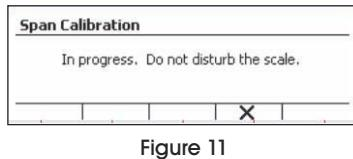

Figure 11
5. Place a calibration mass of the specified weight on pan and press the softkey corresponding to the ✓ icon. To change to a different calibration point, input desired value and place the corresponding weight on pan for calibration. A suggestive message shows on the screen. (See Figure 11)